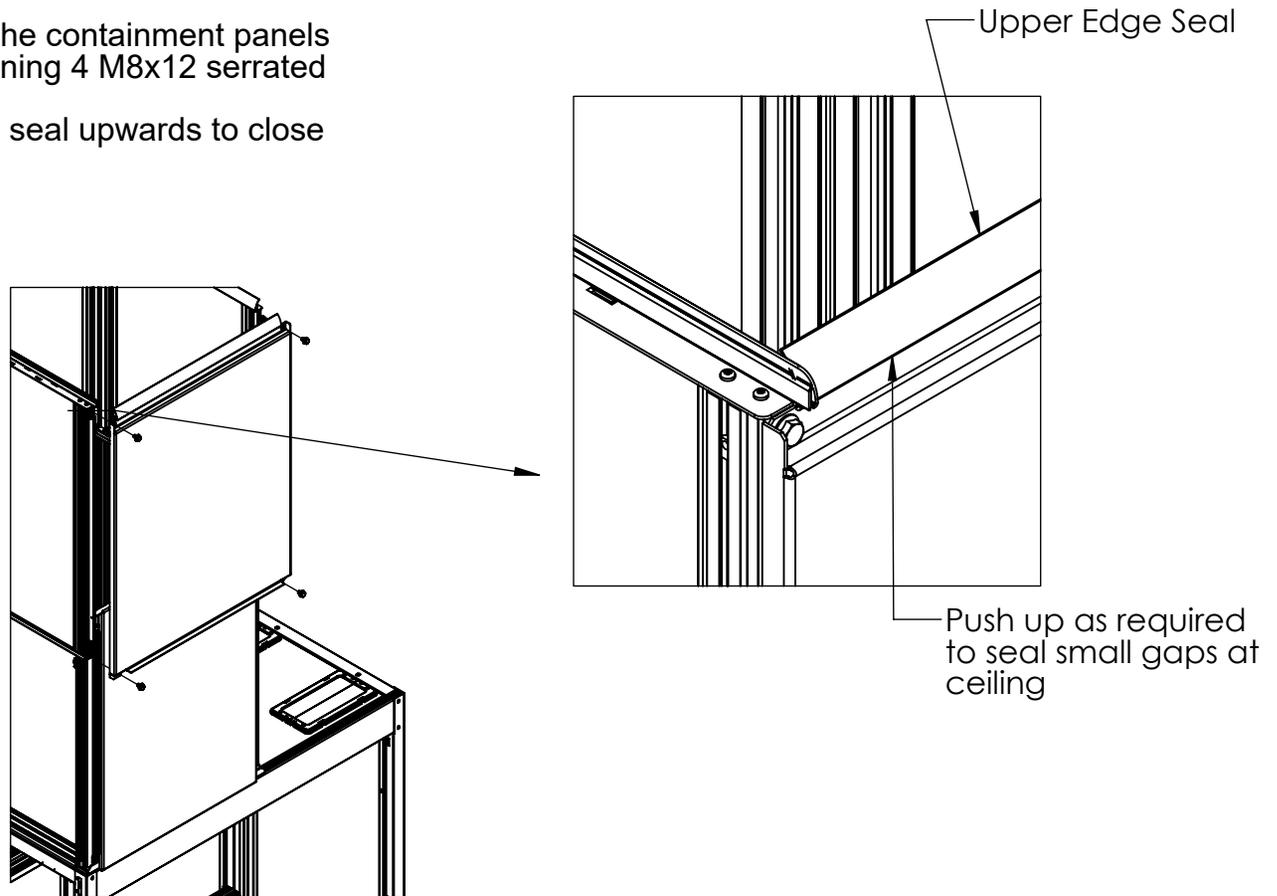

Figure 4.
4. Attach the upper panel (4 Slots) to the containment panels as shown in Figure 4 with the remaining 4 M8x12 serrated screws.